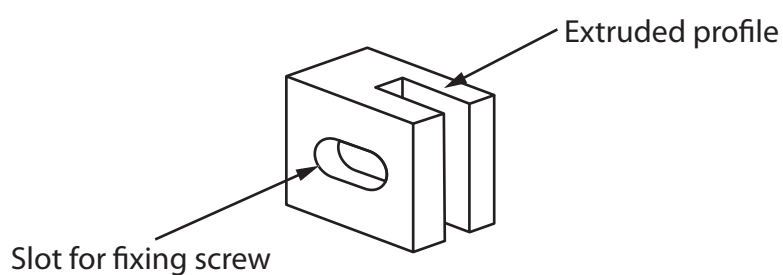

Figure 9
- (b) Figure 9 shows one of the brackets manufactured from an extruded profile of polyvinyl chloride (PVC).